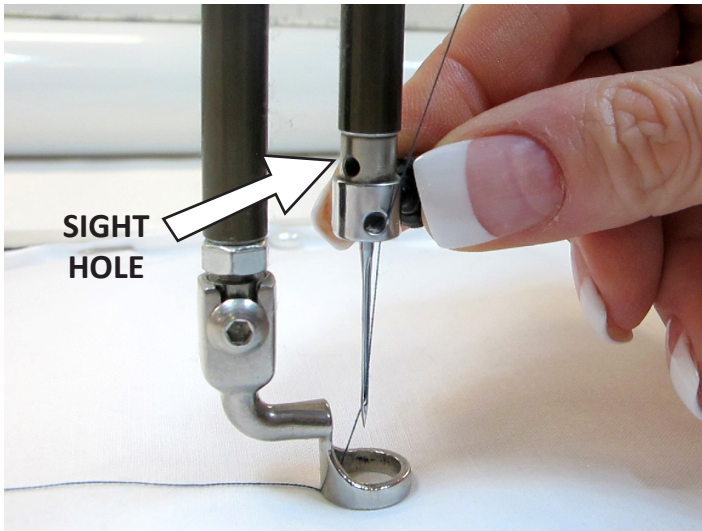

Figure 7
4. With the scarf (small ground out section/dip on the back side of the needle just above the needle eye) facing toward the back hand-wheel side of the machine, and the long groove down the front of the needle facing the bobbin case side (figure 7), push the needle all the way up into the needlebar, until it can go no farther.